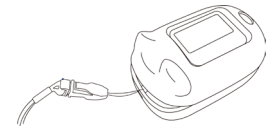

Figure 4 Mounting the hanging rope
- Step 1. Refer to Figure 4, and insert the two AAA size batteries properly in the right direction.